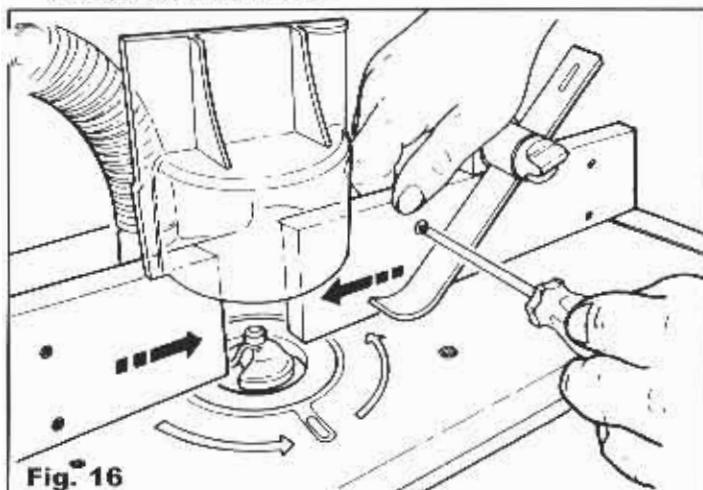

Fig. 16
- When using narrow cutters or when working on small components, loosen the MDF fence faces and push them toward each other until they just clear the cutter. This provides maximum support for the workpiece, close to the cutter. **Fig. 16**